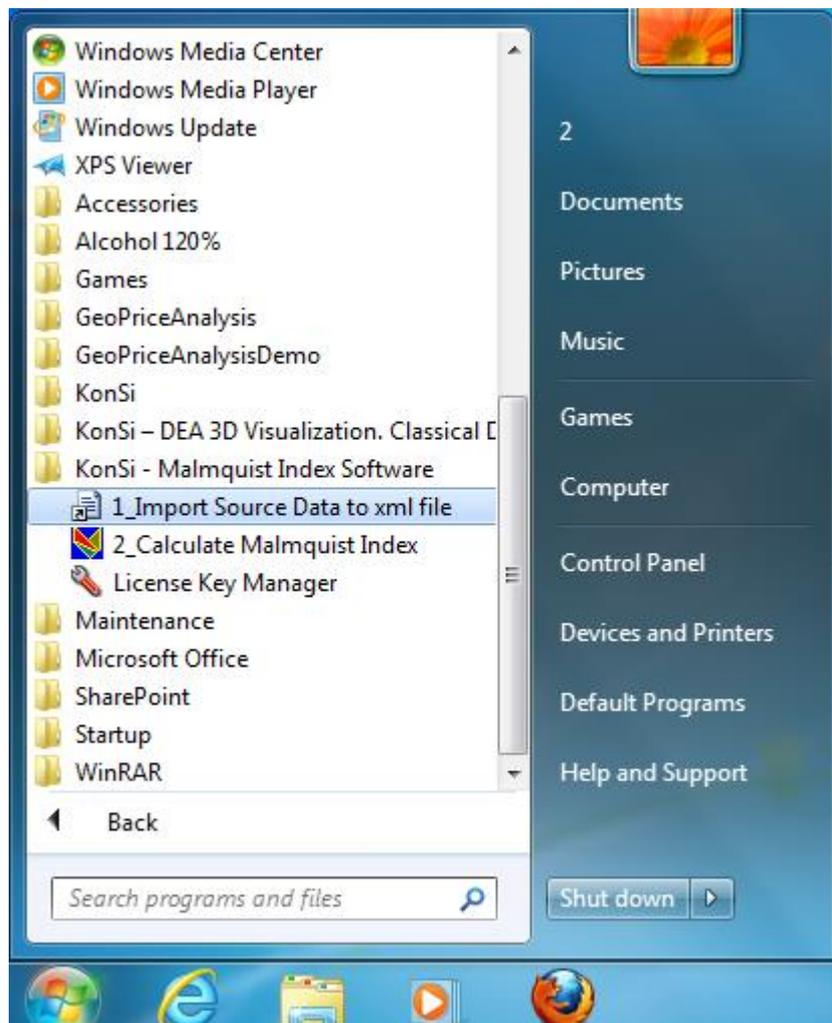

Figure 16 Launching Importer utility from the Start menu
Step 1. To launch the Importer utility, click Start, click All Programs, click KonSi – Malmquist Index Software and then click 1_Import Source Data to xml file. (Figure 16)